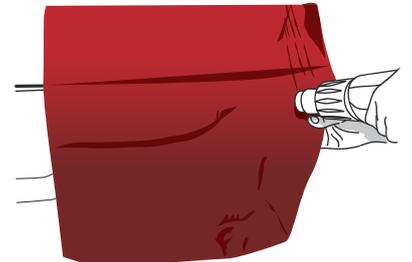

Figure 25
- ▶ Heat the vinyl to a temperature ranging from 40 °C to 50 °C (from 104 °F to 122 °F). (FIG. 25)